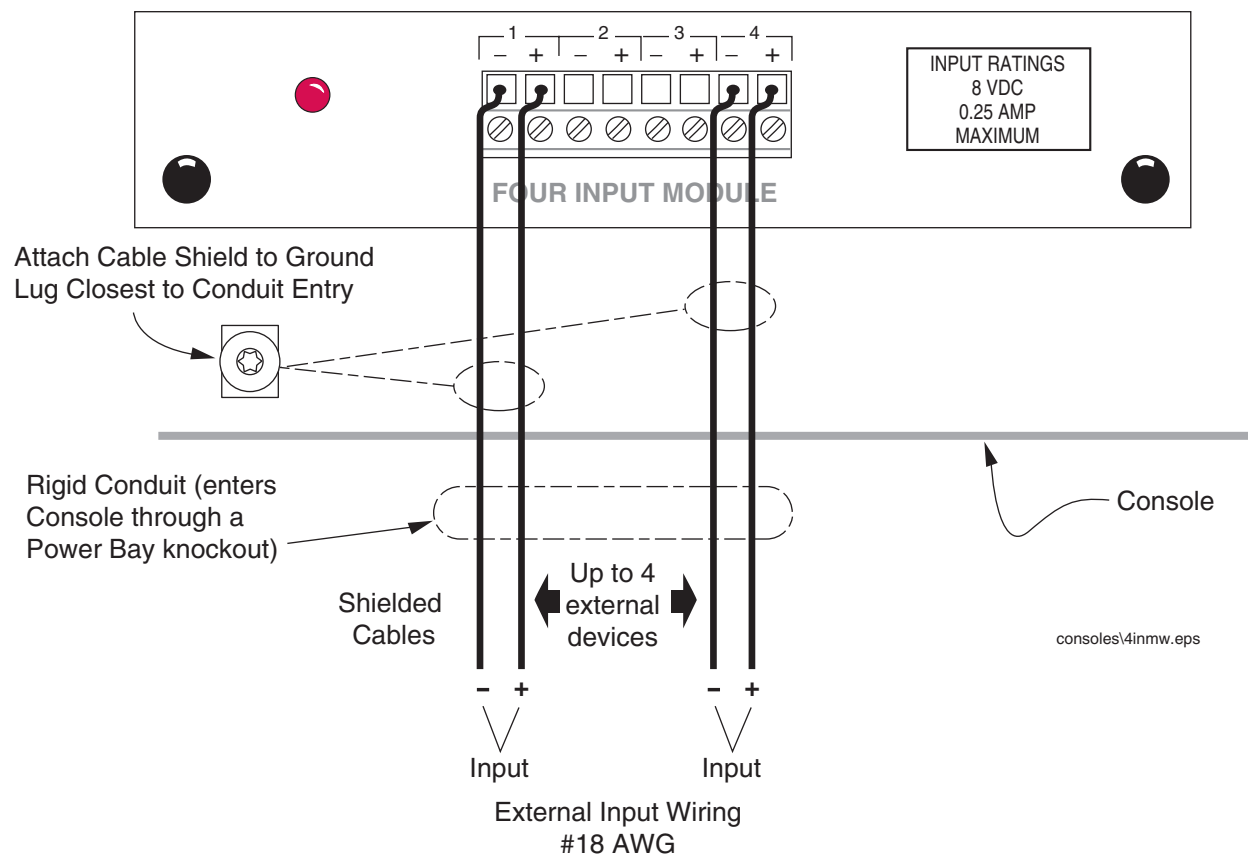

Figure 6. Four Input Module Wiring Diagram
1. For each external input, connect a shielded cable consisting of two 18 AWG conductors to the appropriate terminals on the module (see Figure 6).